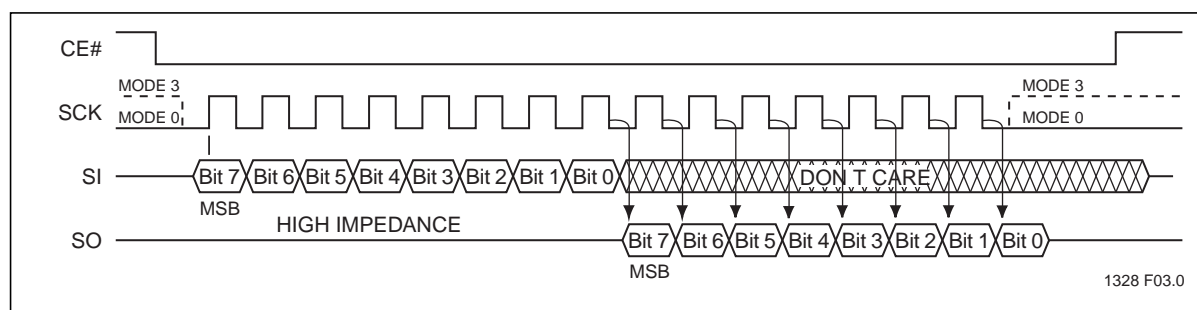

Figure 3: SPI Protocol
The SST25WF512/010/020/040 support both Mode 0 (0,0) and Mode 3 (1,1) of SPI bus operations. The difference between the two modes, as shown in Figure 3, is the state of the SCK signal when the bus master is in Stand-by mode and no data is being transferred. The SCK signal is low for Mode 0 and SCK signal is high for Mode 3. For both modes, the Serial Data In (SI) is sampled at the rising edge of the SCK clock signal and the Serial Data Output (SO) is driven after the falling edge of the SCK clock signal.